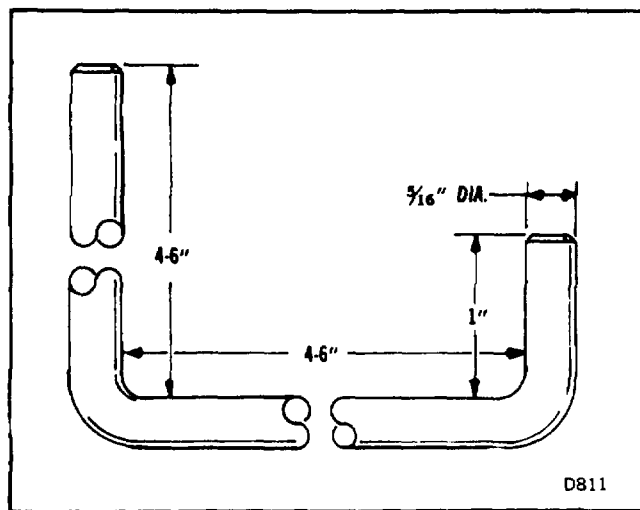

Figure 8.
5. Lift clutch pack from the transmission using the tool shown in Figure 8, and illustrated in Figure 9. If preferred, the pack may be slung for removal from the housing. Three-inch belting makes a good sling.